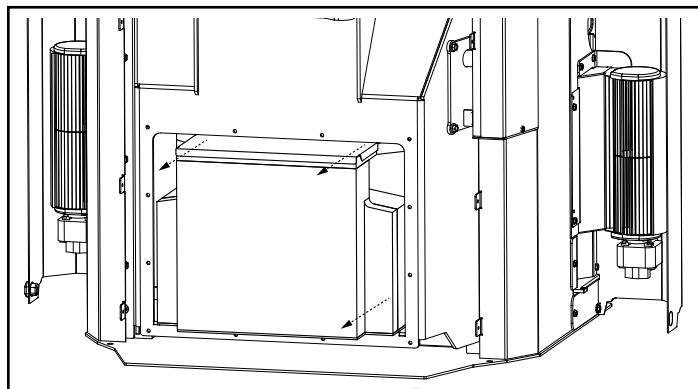

Figure 3
2. Slowly pull on combustion package and remove from the combustion cavity. Figure 3.